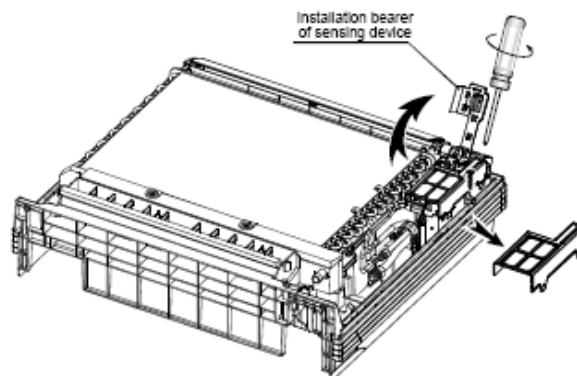

Fig. 9-1
- The installation bearer of sensing device rotated to another side, and then takes off cover of electrical box. (Take off the electrical box if the capacity is 18000btu/h as well as using network function.) (Refer to Fig.9-1)